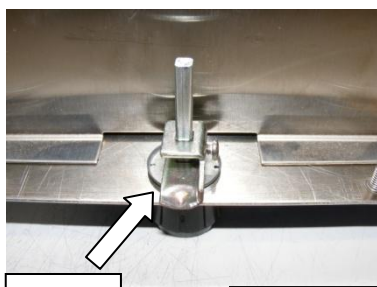

Fig. 3
- Locate Knob Assembly and install in the hole on the left side of the panel. (**See Fig. 3**).